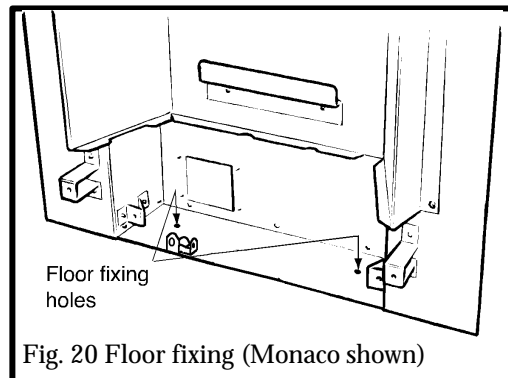

Fig. 20 Floor fixing (Monaco shown)
7.2.9 Drill a hole into the fireplace floor through each of the two holes in the base of the convection box, using a no.12 masonry drill (see figure 20).